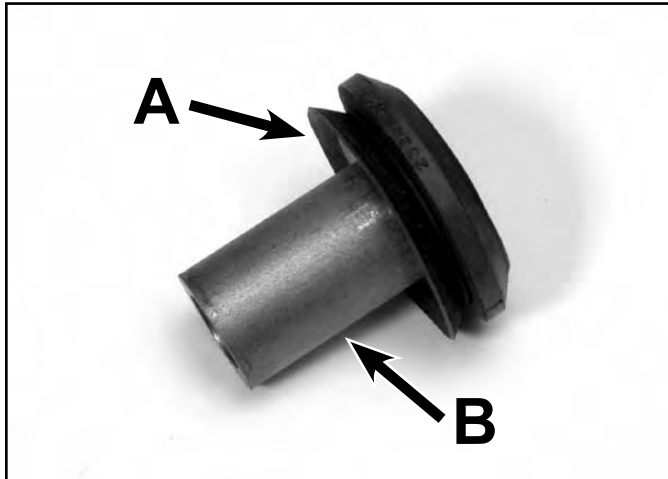

Fig 206
1. Check to make sure that the brake plate seal is in good condition, then stretch onto the brake plate bushing (Fig. 206).